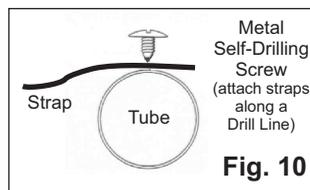

Fig. 10
- B. Attach remaining straps (Evenly Spaced) on a drill line with metal screws (see Fig. 10). **DO NOT pre-drill holes or over-tighten screw.** Use all straps provided.